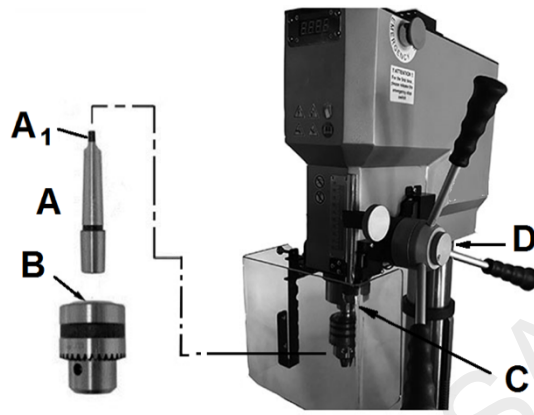

Figure 4-2: Installing chuck and arbor
1. Install 3 feed handles into hub (D, Fig. 4-2).
1. Thoroughly clean arbor (A, Fig. 4-2), chuck (B) and spindle (C). Any grease or residue in these areas can cause the pieces to separate and create a safety hazard as well as damage to the tool.